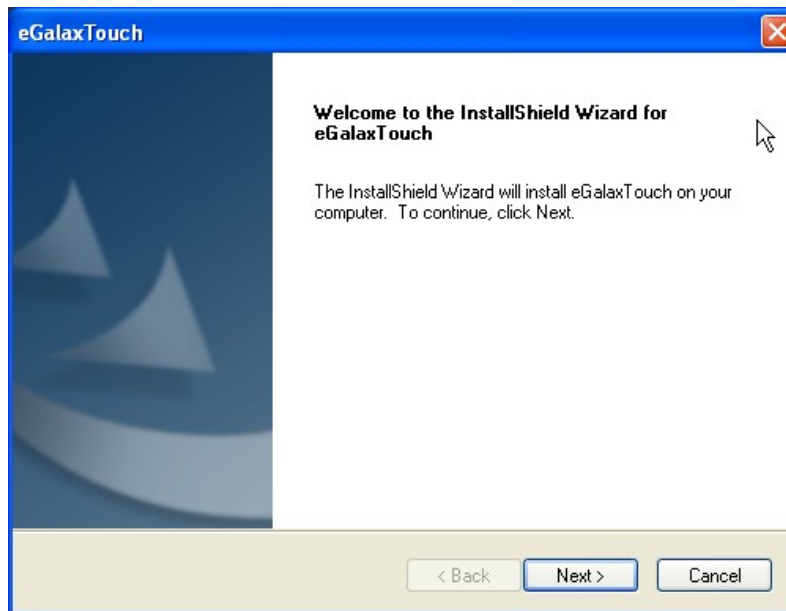

Figure 6-35: Welcome Screen
Step 3: The Welcome screen in **Figure 6-35** appears. Click **Next** to continue.